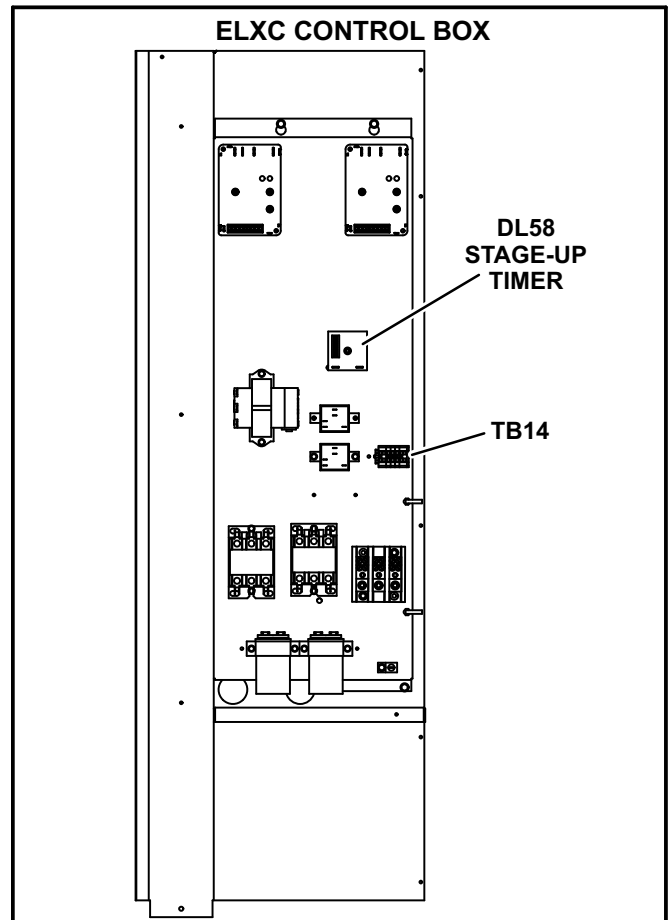

FIGURE 2
- 3- Use the #8 screws, provided in the kit, to install the DL58 timer as shown in figure 2.